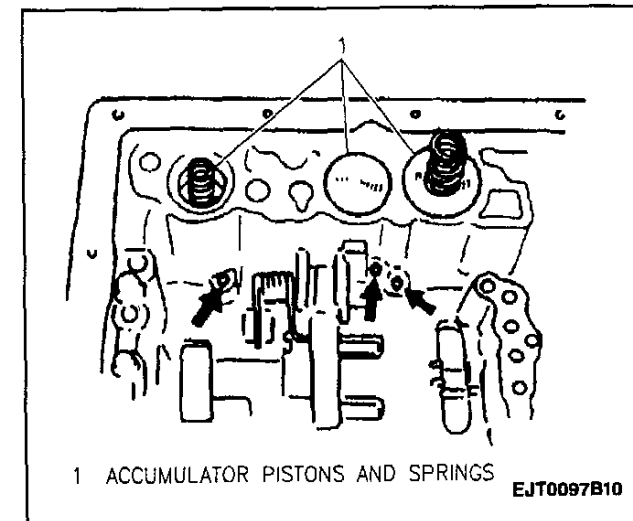

Figure 71—Accumulator Pistons and Springs (03-72LE, 4-Speed)
4. Cover accumulators with a clean cloth and apply low compressed air slowly to the fluid passages shown in Figure 71 until the air pressure forces the second brake, direct clutch and forward clutch accumulators from out of their respective case bores.